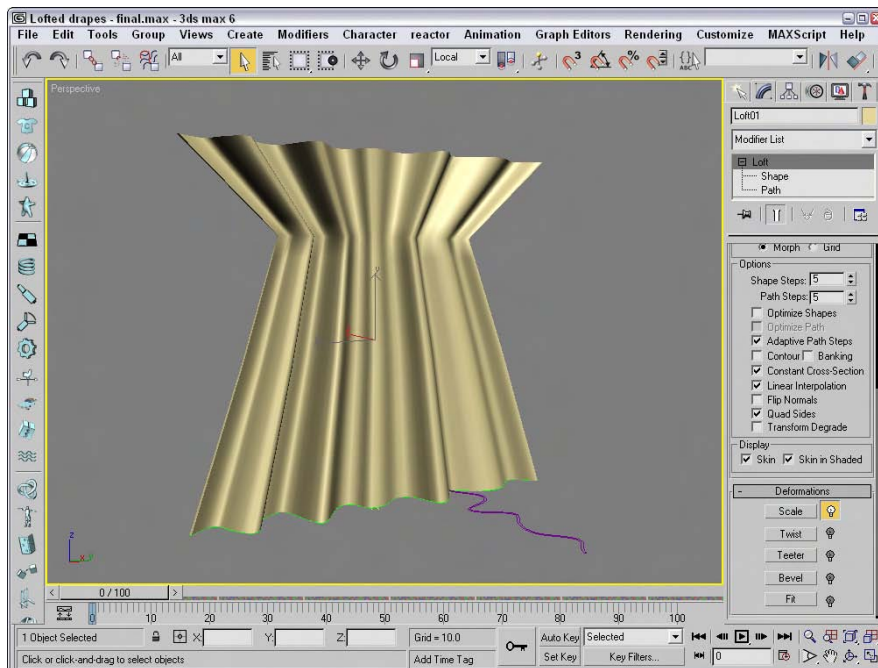

Figure 17-29: Drapes that have been modeled using a Loft object
4. Use the Deformation functions to add more control to the drapes, such as tying them together as shown in Figure 17-29.